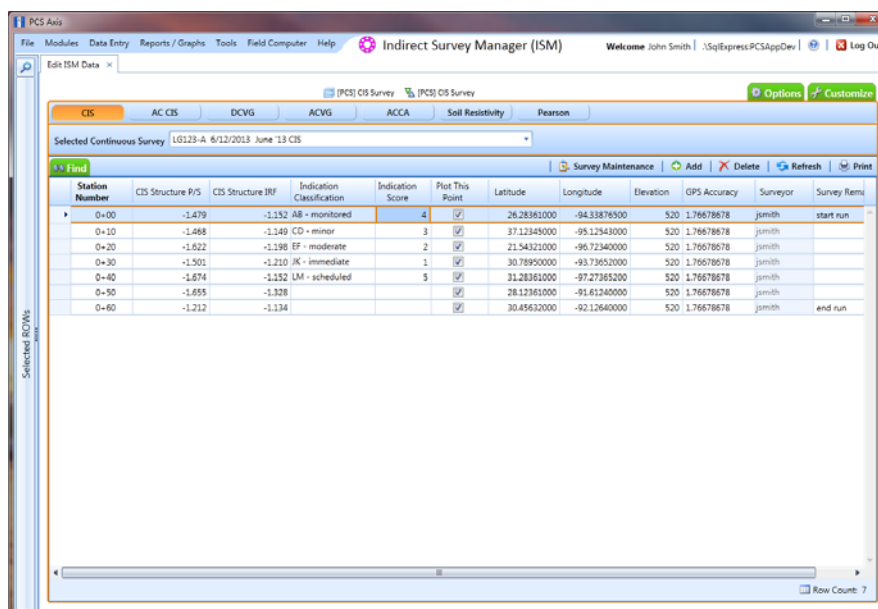

Figure 6-49. Edit ISM Data
- 3 Click **Data Entry > Edit ISM Data** to open the ISM data entry grid. Then click a button labeled with the type of continuous survey data you want to work with, such as the **CIS** button  (Figure 6-49).